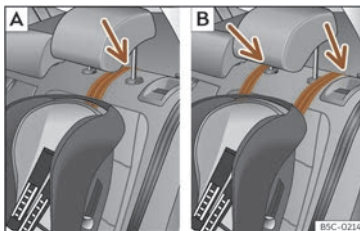
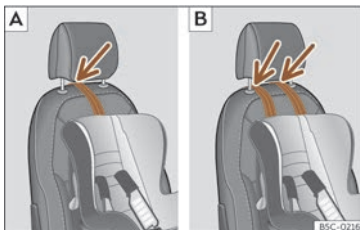

Fig. 44 Rear seats: adjustment and assembly according to the Top Tether belt.
Fig. 45 Passenger seat: adjustment and assembly according to the Top Tether belt.
- Position the belt under the headrest (according to the instructions of the seat itself, lift or remove the headrest if necessary) >>> **Fig. 44**, >>> **Fig. 45**.